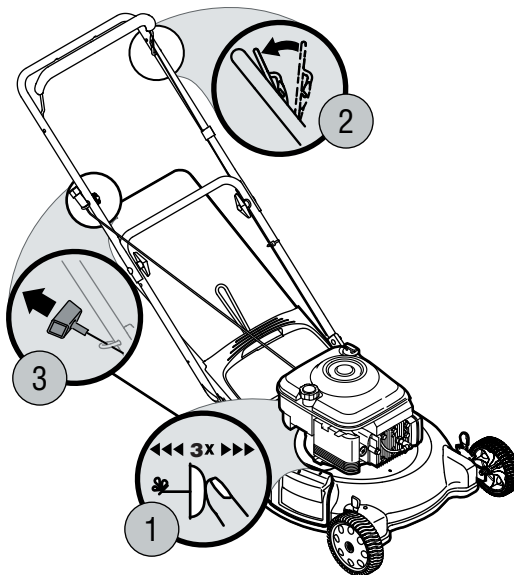

Figure 10
2. Standing behind the unit, depress the blade control handle and hold it against the upper handle as shown in Figure 10.